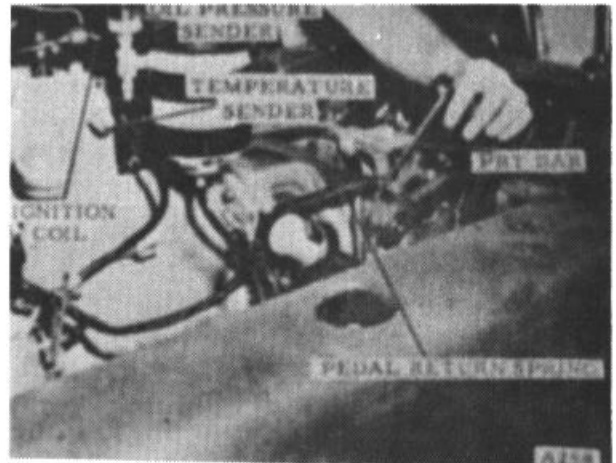

Figure 3
5. Disconnect: the wire from the oil pressure sender; the high and low tension wires from the ignition coil; the wire from the temperature sender. (Fig. 3)